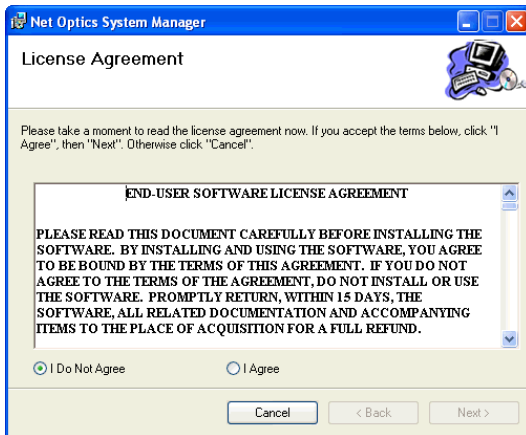

Figure 16: Net Optics System Manager License Agreement
1. Locate **Setup.exe** on the CD and double click it. The License Agreement dialog box appears as shown in Figure 16.